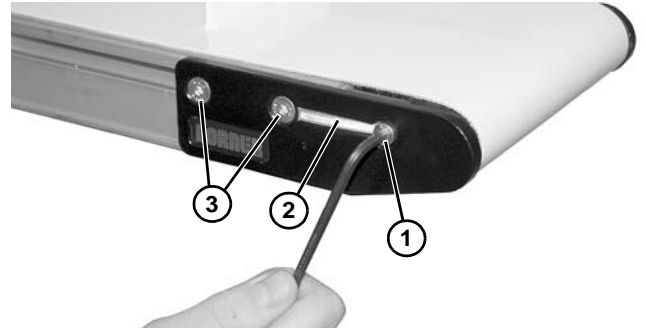

Figure 103
1. On one side of the conveyor, remove screw (Figure 103, item 1) and remove dust cover (Figure 103, item 2), if installed.
2. Remove two fastening screws (Figure 103, item 3).